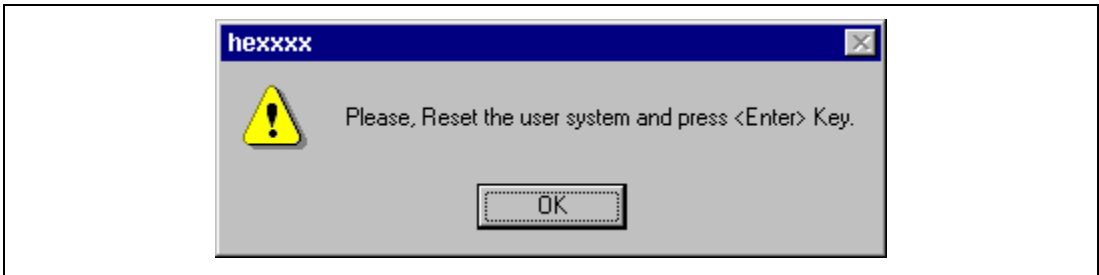

Figure 3.45 Dialog Box of the RESET Signal Input Request Message
10. The dialog box shown in figure 3.45 is displayed.